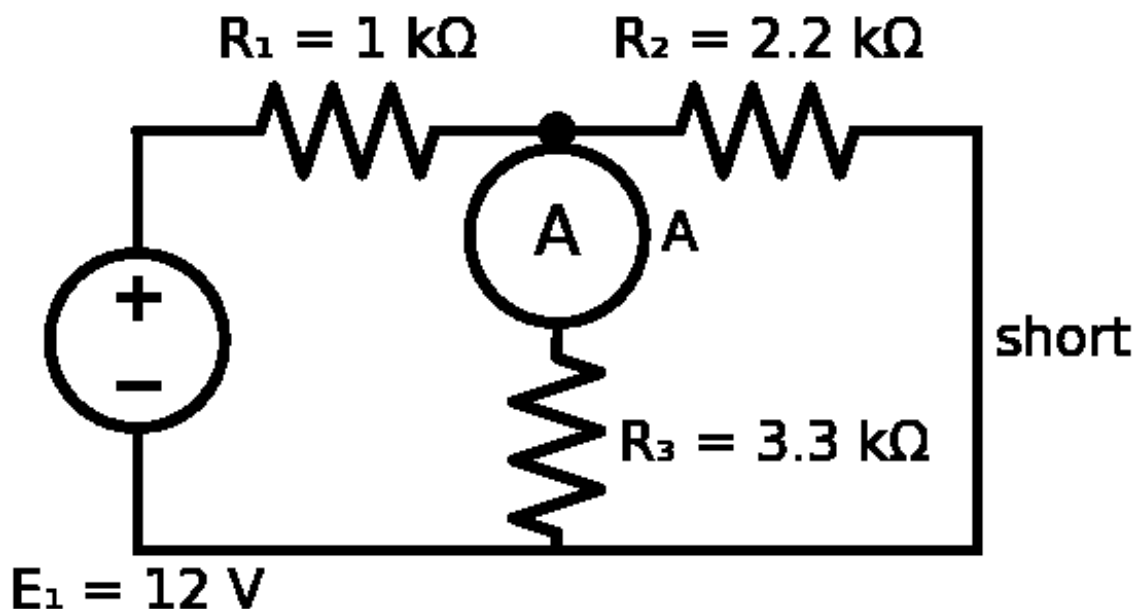

Figure 3.1: E_1 acting alone (E_2 replaced by a short circuit).
- Remove E_2 and replace it by a short (connect the two points together); measure I_3' with E_1 alone (Figure 3.1).